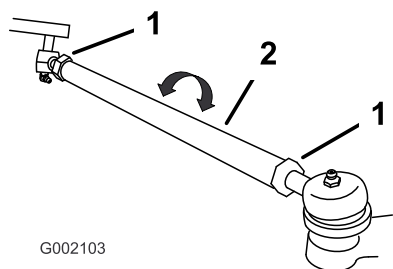

Figure 47
7. If the measurement does not fall within 0 to 6 mm (0 to 1/4 inch), loosen the jam nuts at both ends of the tie rods (Figure 47).